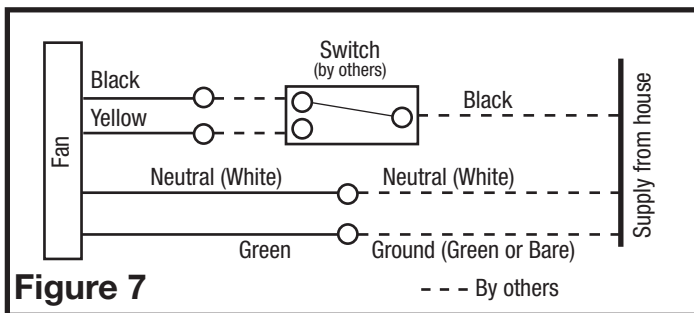

Figure 7
- Connect the white wire from the house to the white wire from the fan. Connect the ground wire from the house to the green wire from the fan housing (Figure 7). Use approved methods for all connections.